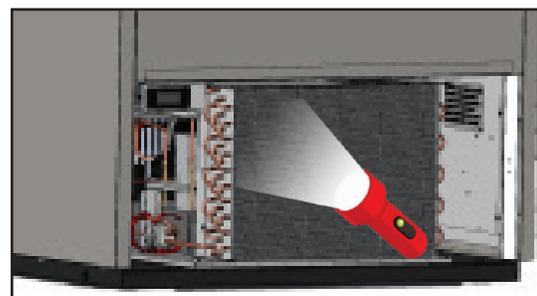

Fig. 4. Verify that the coil is clean.
5. With dirt removed from the surface of the coil, use a flashlight to verify that you can see through the coil and observe the condenser fan blade spinning. See fig. 4.